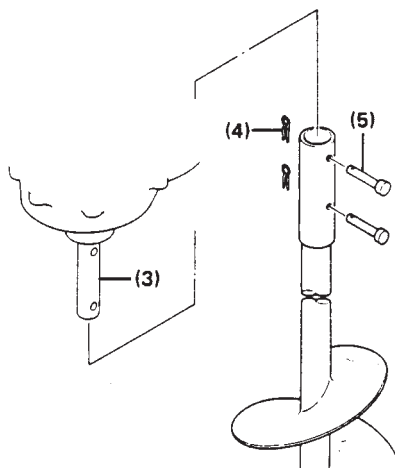

Fig. 2
- 3) For installation of auger, put powerhead on the ground. Put auger on drive shaft. Aligning each hole of drive shaft and auger, insert the two provided fixing pins into the holes and fix them with snap pins using pliers. (Fig. 2)